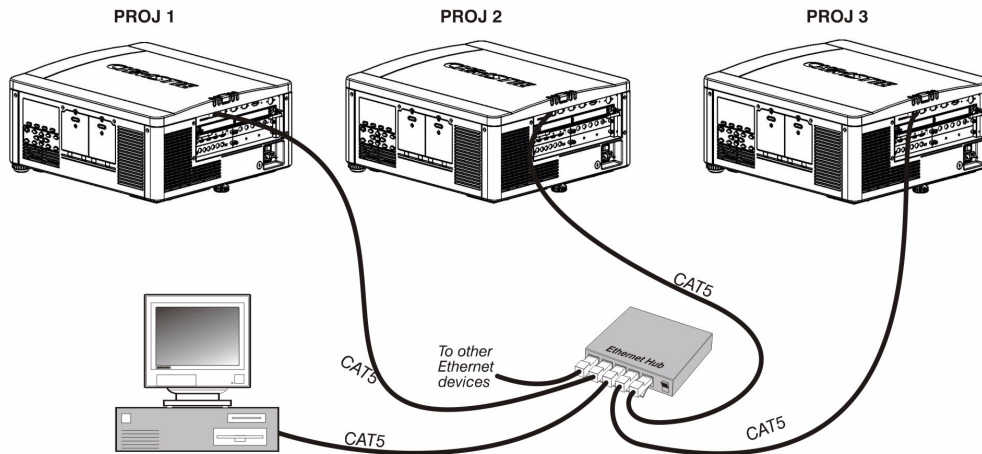

FIGURE 2-23 - ETHERNET NETWORK SETUP
**ETHERNET NETWORK SETUP:** To add one or more projectors to an Ethernet network, use standard CAT5 cable to connect each projector’s Ethernet port to a hub belonging to the network. A controller or PC must also be connected to the hub, see Figure 2-23 - Ethernet Network Setup. **NOTE:** A wireless router can be used to communicate to the projectors via 802.11b/g.